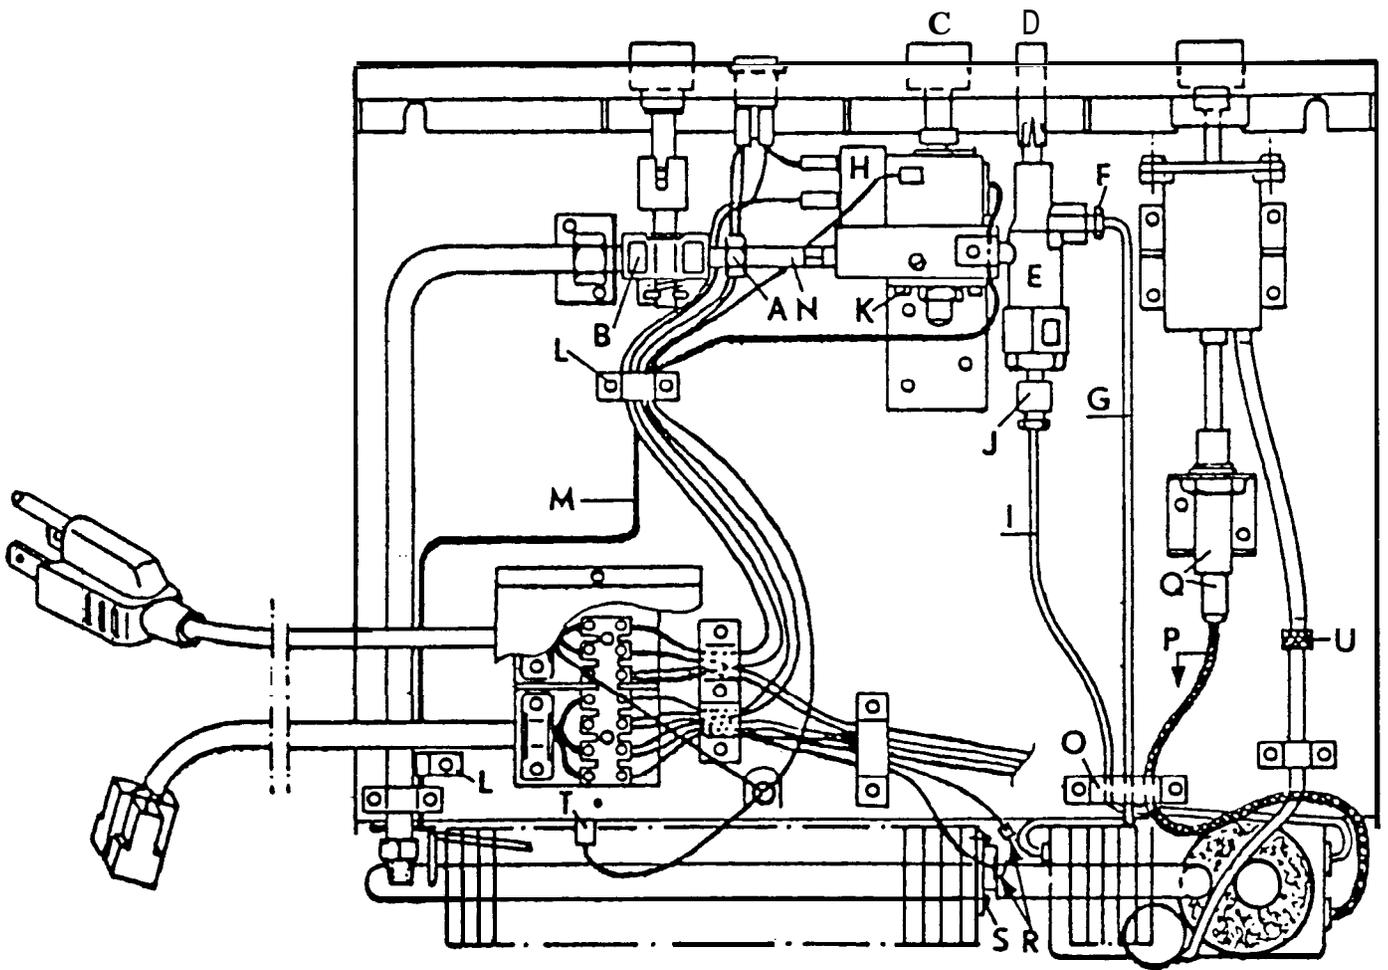

Fig.11
1. Unscrew thermo-coupling (I, Fig.11) from thermo-current adapter (J, Fig.11).
2. Unscrew clip (O, Fig.11) for gas-pipe (G, Fig.11) and thermocouple.
3. Remove the three connections (A, Fig. 13/R, Fig.11), unscrew support bracket (B, Fig. 13) of the ventilator.
4. Unscrew thermostat (S, Fig. 11) from condenser fins and remove plug-connection of grounding cable (T, Fig. 11) above the condenser fins.
8. Unscrew union nut (U, Fig.11) from air feed-pipe.